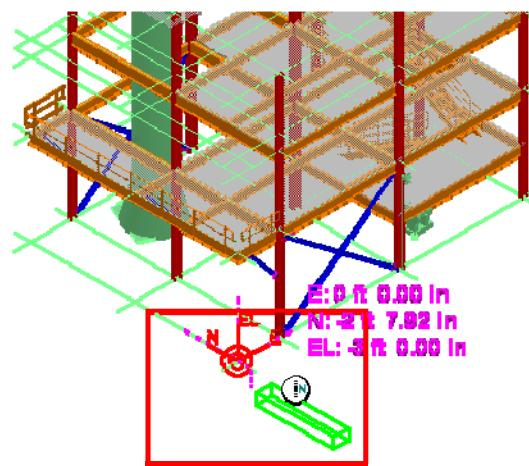

Figure 5: Cableway Routed in North Direction
13. Route the duct bank by pointing towards north direction till the **N** SmartSketch glyph appears, as shown in the Figure 5.